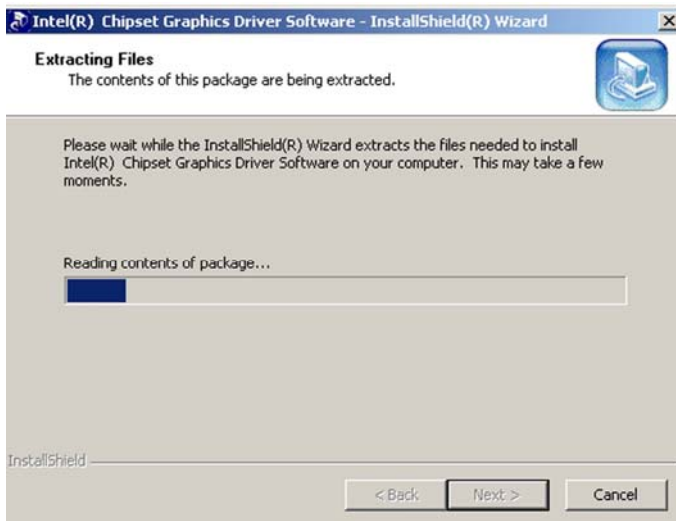

Figure 6-11: GMA Driver File Extraction
Step 7: Click **NEXT** to extract the GMA driver files. See Figure 6-11.